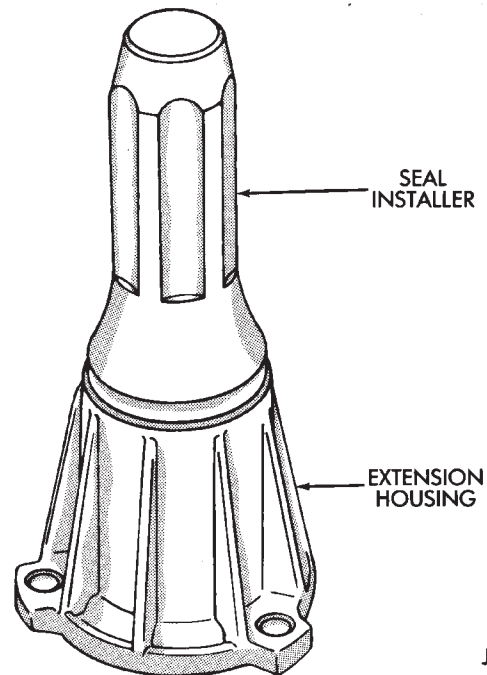

Fig. 84 Replacing Extension Housing Seal
(71) Install new extension housing oil seal (Fig. 84).